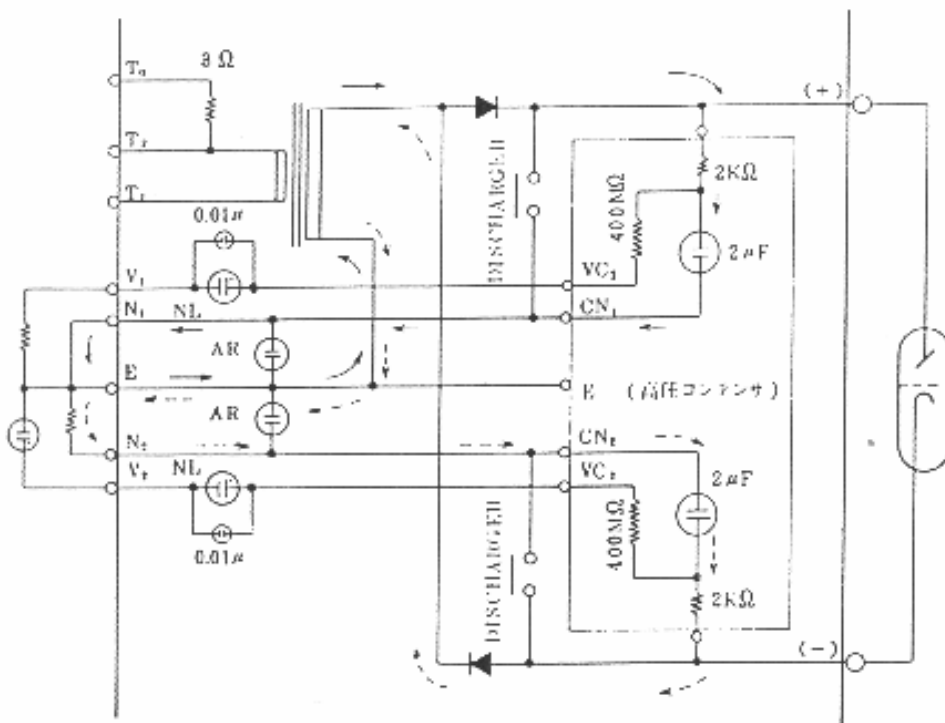

Fig. 3-1-2
(5) Figure 3-1-2 is the connection diagram of the high tension side of this circuit.
- (6) To connector 33C, confirmative contacts (HK1 and HK2) of discharger (see Fig. 3-1-2) which is equipped to the high tension generator are connected. When the discharger is in the state of short-circuiting the high tension condenser by way of a 2 k $\Omega$  resistor, HK1 and HK2 are short-circuited. Accordingly, since base current of transistor Q2-01 does not flow at that time, transistor Q2-01 is switched off, and relays K-T1 and K-T2 do not function.